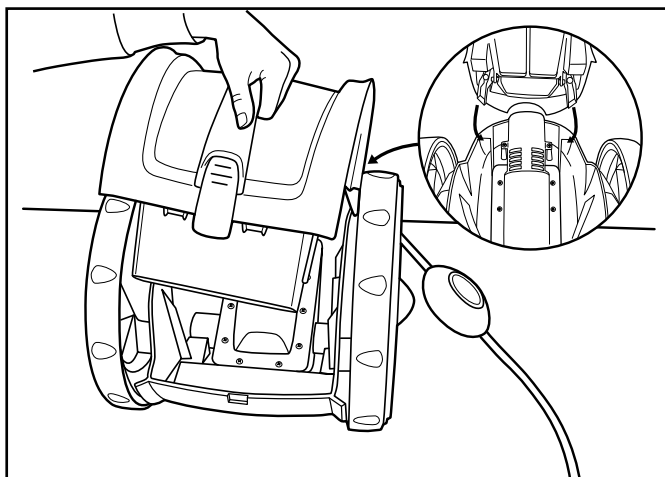

Figure 10. Remove the Filter Canister/Cover Assembly
4. Remove the filter assembly from the body, as shown in Figure 10.